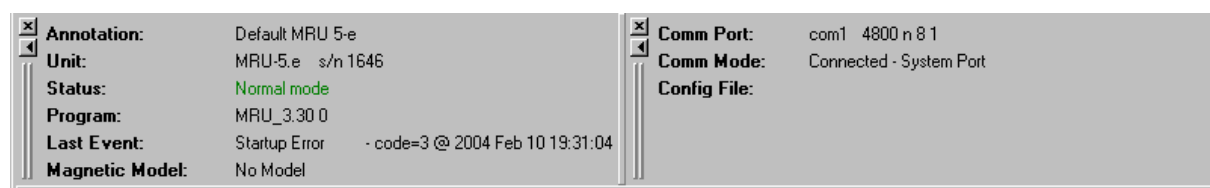

Figure 28 MRU/MRC information bar
- Clicking on the toggle **MRU Info Bar** button shows information about the MRU unit. (Left part of Figure 28).
- Clicking on the toggle **MRC Info Bar** button shows information about the PC communication port. (Right part of Figure 28).